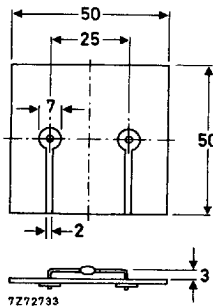

Fig. 2 Mounted on a printed-circuit board.
2. Thermal resistance from junction to ambient; device mounted on a 1,5 mm thick epoxy-glass printed circuit board; Cu-thickness $\geq 40\text{ }\mu\text{m}$; Fig. 2 (see "Thermal Model")
- - - = ambient temperature and device mounted as shown in Fig. 2